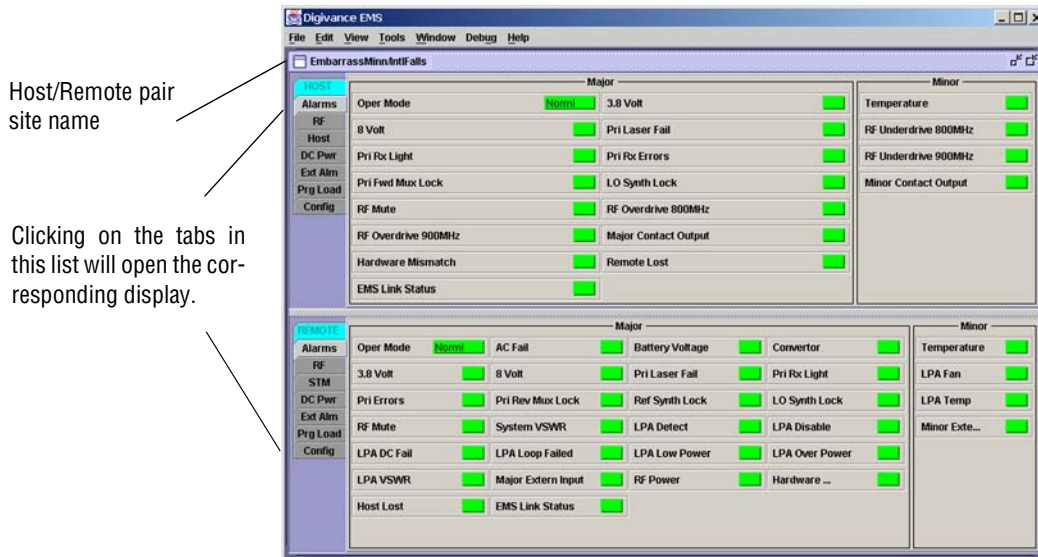

Figure 3-2. Typical Host and Remote Alarms Display
- Open the **View** drop down menu and connect to the Host and Remote pair by selecting the "NotNamed/NotNamed" Host/Remote pair. The **HOST Alarms** display and the **REMOTE Alarms** display will open within the main window as shown in Figure 3-2.
12. Click on the **HOST Config** tab and on the **REMOTE Config** tab (see Figure 3-2). The **HOST Config** display and the **REMOTE Config** display will open within the main window.
16. Click on the **HOST RF** tab (see Figure 3-2). The **HOST RF** display will open within the main window.
19. Click on the **REMOTE RF** tab (see Figure 3-2). The **REMOTE RF** display will open within the main window.
21. Click on the **HOST RF** tab (see Figure 3-2). The **HOST RF** display will open within the main window.